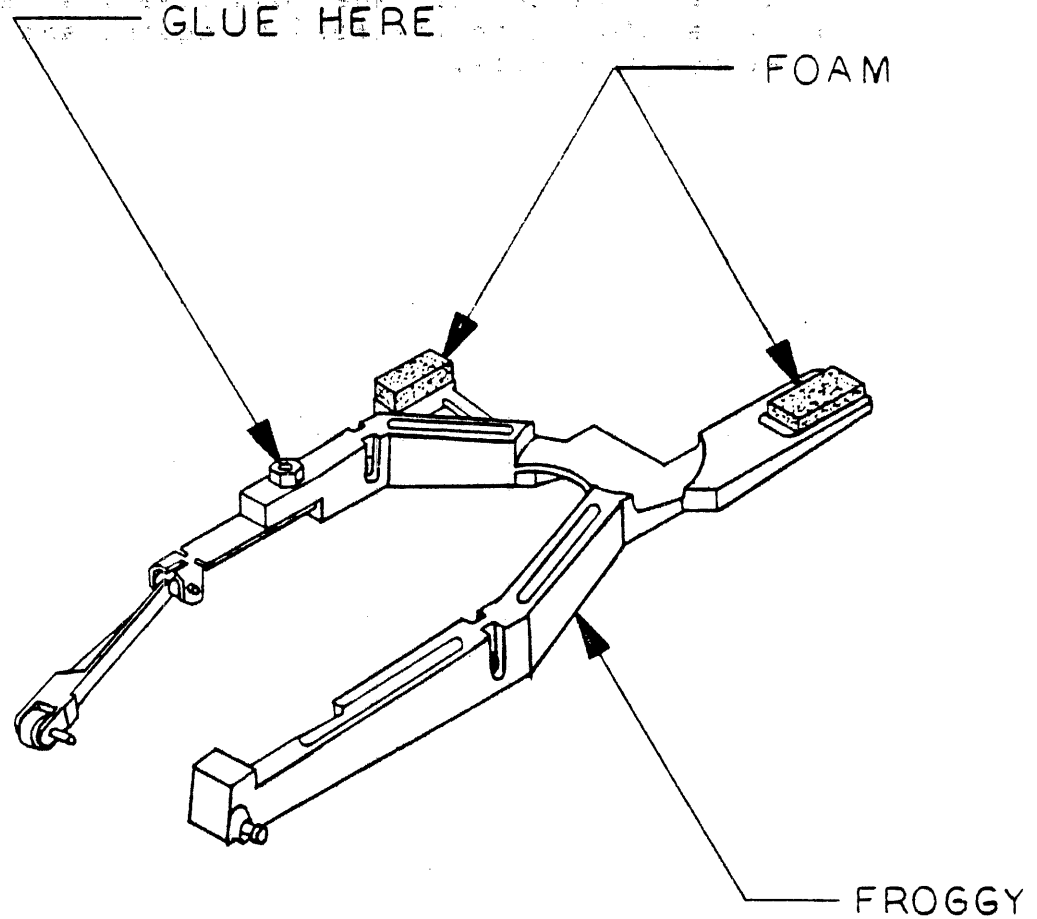

FIGURE 5. THE INSTALLATION OF THE FOAM ON THE FROGGY
- 7.3.5 Carefully apply glue to the bottom of the screw where it contacts the nut. (See Fig. 5.) Remove any excess glue with a paper towel.
- 7.3.6 Install foam on the bottom-side of the froggy as shown in Fig. 5. Apply the adhesive side of the foam evenly on the froggy surface so that the foam lies flat and without wrinkles. Make sure the foam is square and flush with the edges of the froggy.